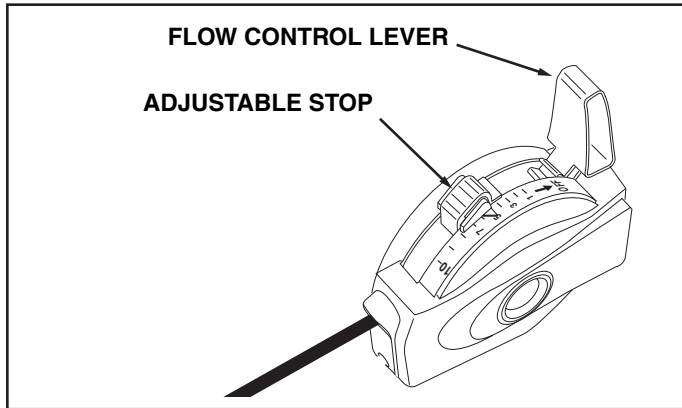

FIGURE 12
2. Move the Flow Control Lever forward until it snaps into the Adjustable Stop, locking the lever at the desired setting. See figure 12.